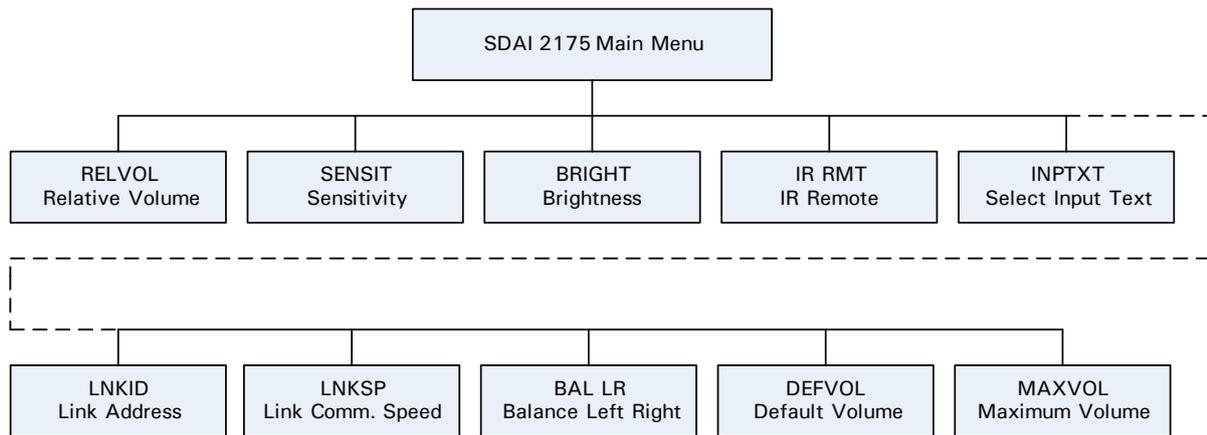

Fig. 1.
The menu system of the SDAI2175 can be entered by pressing the Menu key (3) where after the menu indicator will be illuminated. The volume control keys (12) now changes status from being volume control keys to be sub menu selectors for the menu system. Pressing the keys changes between the different menus seen in fig.1.
The menu system is shown on Fig. 1, and the different sub menus will be explained in the following.